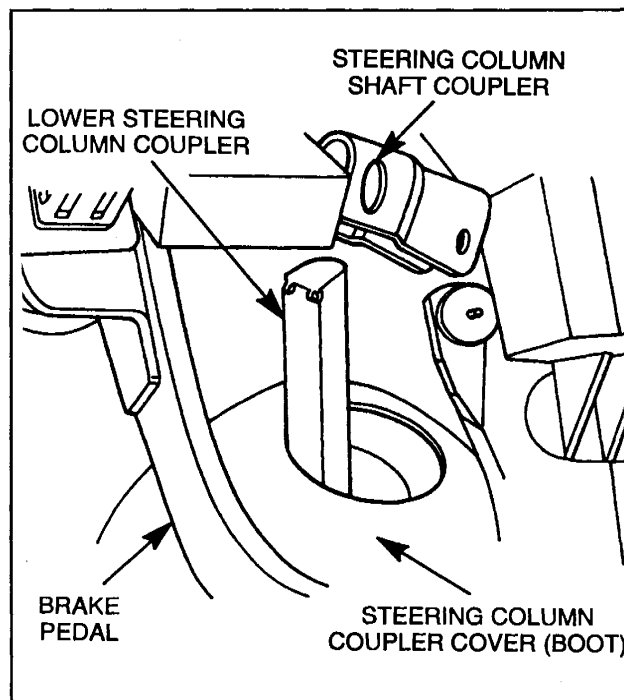

Fig. 4 Steering Column Coupler Cover (Boot)
- Remove the steering column coupler cover (boot), (Fig. 4) enclosing the steering column coupler.
- If the coupler does not require replacement, re-install the steering column coupler cover (Fig. 4).